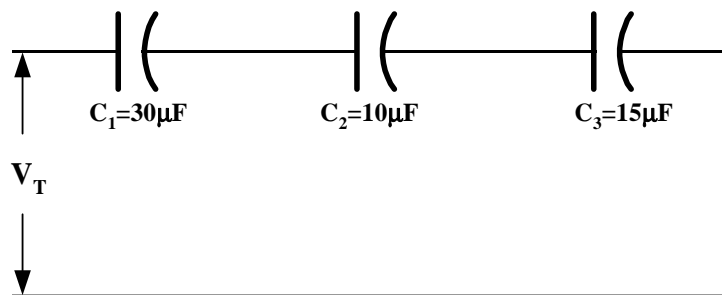

Fig. 8 Capacitors in Series
In Fig. 8, three capacitors are connected in series across a line voltage (V). The microfarad rating of each capacitor is the same as in the parallel circuit example. The following computations show that the total capacitance of this series bank of capacitors is less than the capacitance of any one capacitor.
Using the microfarad ratings of the three capacitors given in Fig. 8, the total capacitance of the series capacitor bank is: